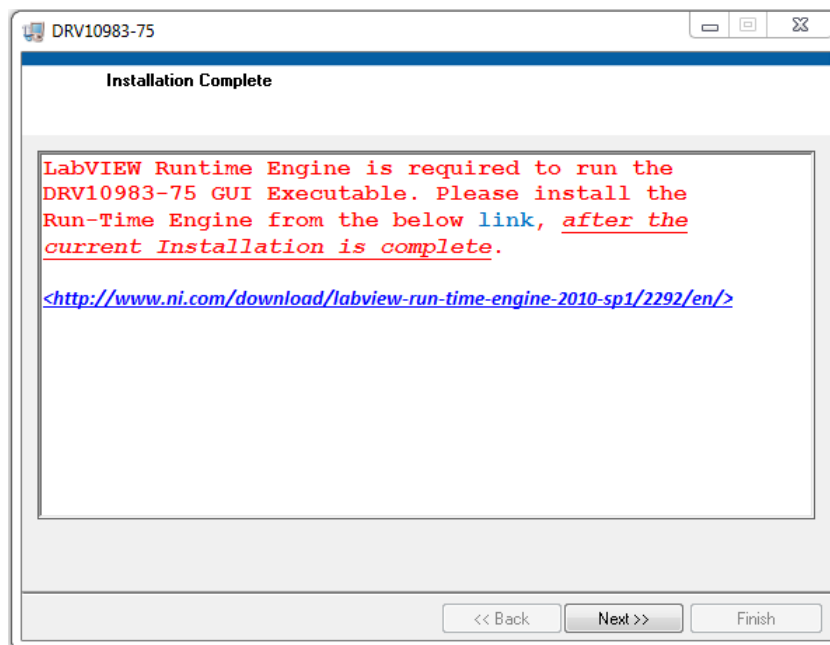

Figure 20. GUI Installation Complete
7. The *Installation Complete* screen (Figure 20) appears, providing the link for LabVIEW Runtime Engine. This denotes the completion of DRV10983/75 GUI Installation.